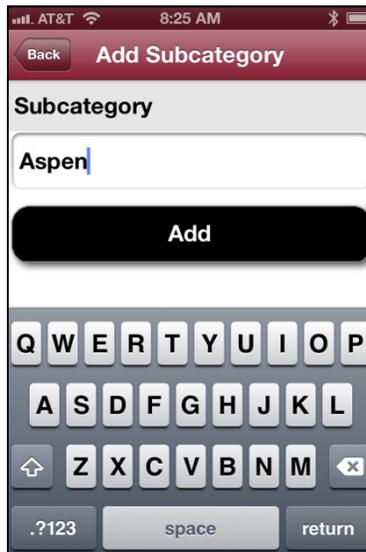

Figure 12
3. Tap the empty field under "Subcategory" to make the cursor appear and bring up the keyboard (Figure 12).